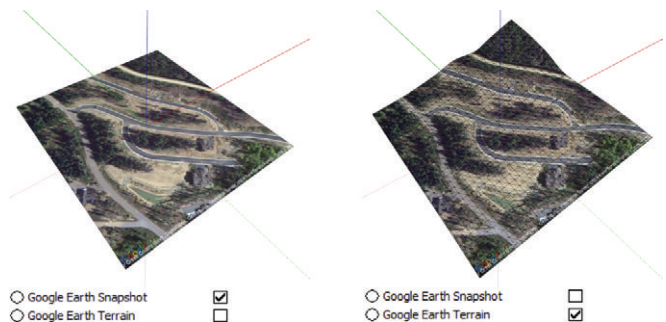

Figure 15.6 Aerial imagery (left) and 3D terrain (right) and their corresponding layers
8. In addition to the flat aerial imagery, you have also imported the 3D terrain of the site (Figure 15.6). Click the Toggle Terrain button on the Google toolbar to toggle between the flat aerial imagery and the 3D terrain. The 2D aerial imagery and 3D terrain are simply locked groups of geometry that are automatically added to the Google Earth Snapshot layer and the Google Earth Terrain layer. The Toggle Terrain button simply switches these layers on and off.